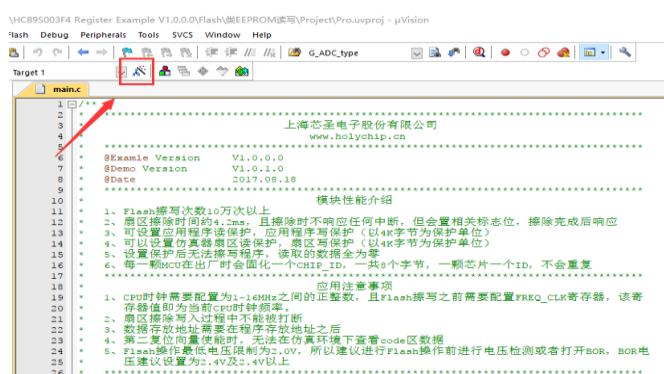

Figure 2-1
- 1、Open Option in KEIL. (Figure 2-1)